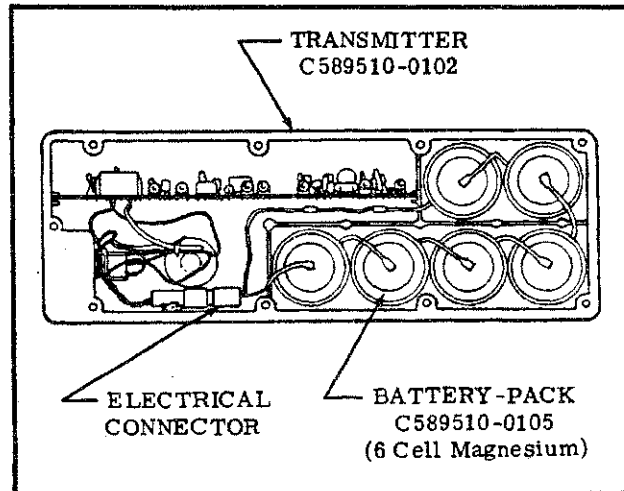
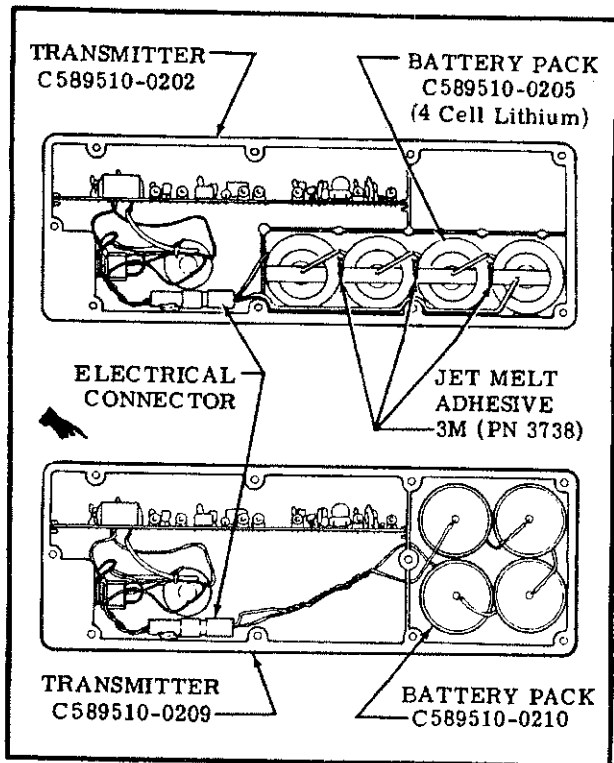

Figure 16-14. Magnesium 6 Cell Battery-Pack Installation
Figure 16-15. Lithium 4 Cell Battery Pack Installations
16-89. DESCRIPTION. The ELT is a self-contained, solid state unit, having its own power supply, with an externally mounted antenna. The C589510-0209 transmitter is designed to transmit simultaneously on dual emergency frequencies of 121.5 and 243.0 Megahertz. The C589510-0211 transmitter used for Canadian registry, operates on 121.5 only. The unit is mounted in the tailcone, aft of the baggage curtain on the right hand side. The transmitters are designed to provide a broadcast tone that is audio modulated in a swept manner over the range of 1600 to 300 Hz in a distinct, easily recognizable distress signal for reception by search and rescue personnel and others monitoring the emergency frequencies. Power is supplied to the transmitter by a battery pack which has the service life of the batteries placarded on the batteries and also on the outside end of the transmitter. ELT's thru early 1974 models, were equipped with a battery-pack containing six magnesium "D" size dry cell batteries wired in series. (See figure 16-14) Mid 1974 thru early 1975, ELT's are equipped with a battery-pack containing four "in-line" lithium "D" size batteries wired in series. Early 1975 and on ELT's are equipped with a battery-pack containing four lithium "D" size batteries which are stacked in two's (See figure 16-15). The ELT exhibits line of flight transmission characteristics which correspond approximately to 100 miles at a search altitude of 10,000 feet. When battery inspection and replacement schedules are adhered to, the transmitter will broadcast an emergency signal at rated power (75 MW-minimum), for a continuous period of time as listed in the following table.
**16-93. REMOVAL AND INSTALLATION OF MAGNESIUM SIX (6) CELL BATTERY-PACK. (Refer to figure 16-14.)**
**16-94. REMOVAL AND INSTALLATION OF LITHIUM FOUR (4) CELL BATTERY-PACK. (Refer to figure 16-15.)**
- d. Place new battery-pack in the transmitter with four batteries as shown in the case in figure 16-15.
- e. Connect the electrical connector as shown in figure 16-15.